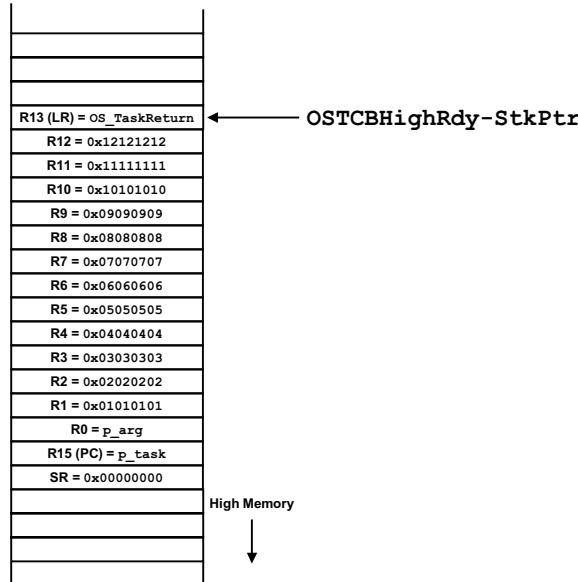

Figure 18-4 Stack Frame pointed to by OSTCBHighRdy->StkPtr
- L18-11(1) The Stack Pointer (`SP`) for the first task to execute is retrieved from the `OS_TCB` of the highest priority task that was created prior to calling `OSstart()`. Figure 18-4 shows the stack frame as pointed to by `OSTCBHighRdy->StkPtr`.
- L18-11(3) The Return from Interrupt/Exception restores the Program Counter (`PC`) and the Status Register (`SR`) in a single instruction. At this point, the task will start executing. In fact, the task will think it was called by another function and thus, will receive '`p_arg`' as its argument. Of course, the task *must not* return.